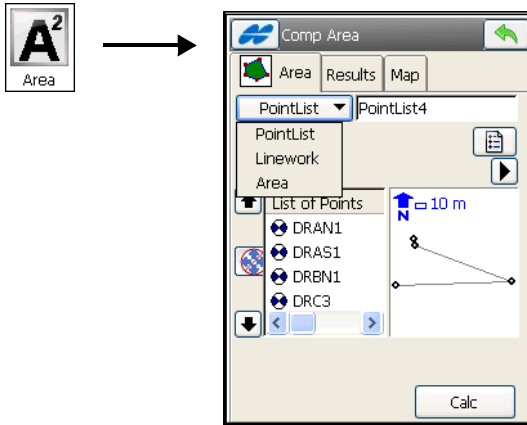

Figure 10-12. By Points
1. On the **Comp Area** screen (Figure 10-12 on page 10-12), select a *PointList*/or *Linework*/or *Area* that contains the points constituting the vertices of the polygon. Use the arrow buttons to change the order of the points (and thus the shape of the polygon).